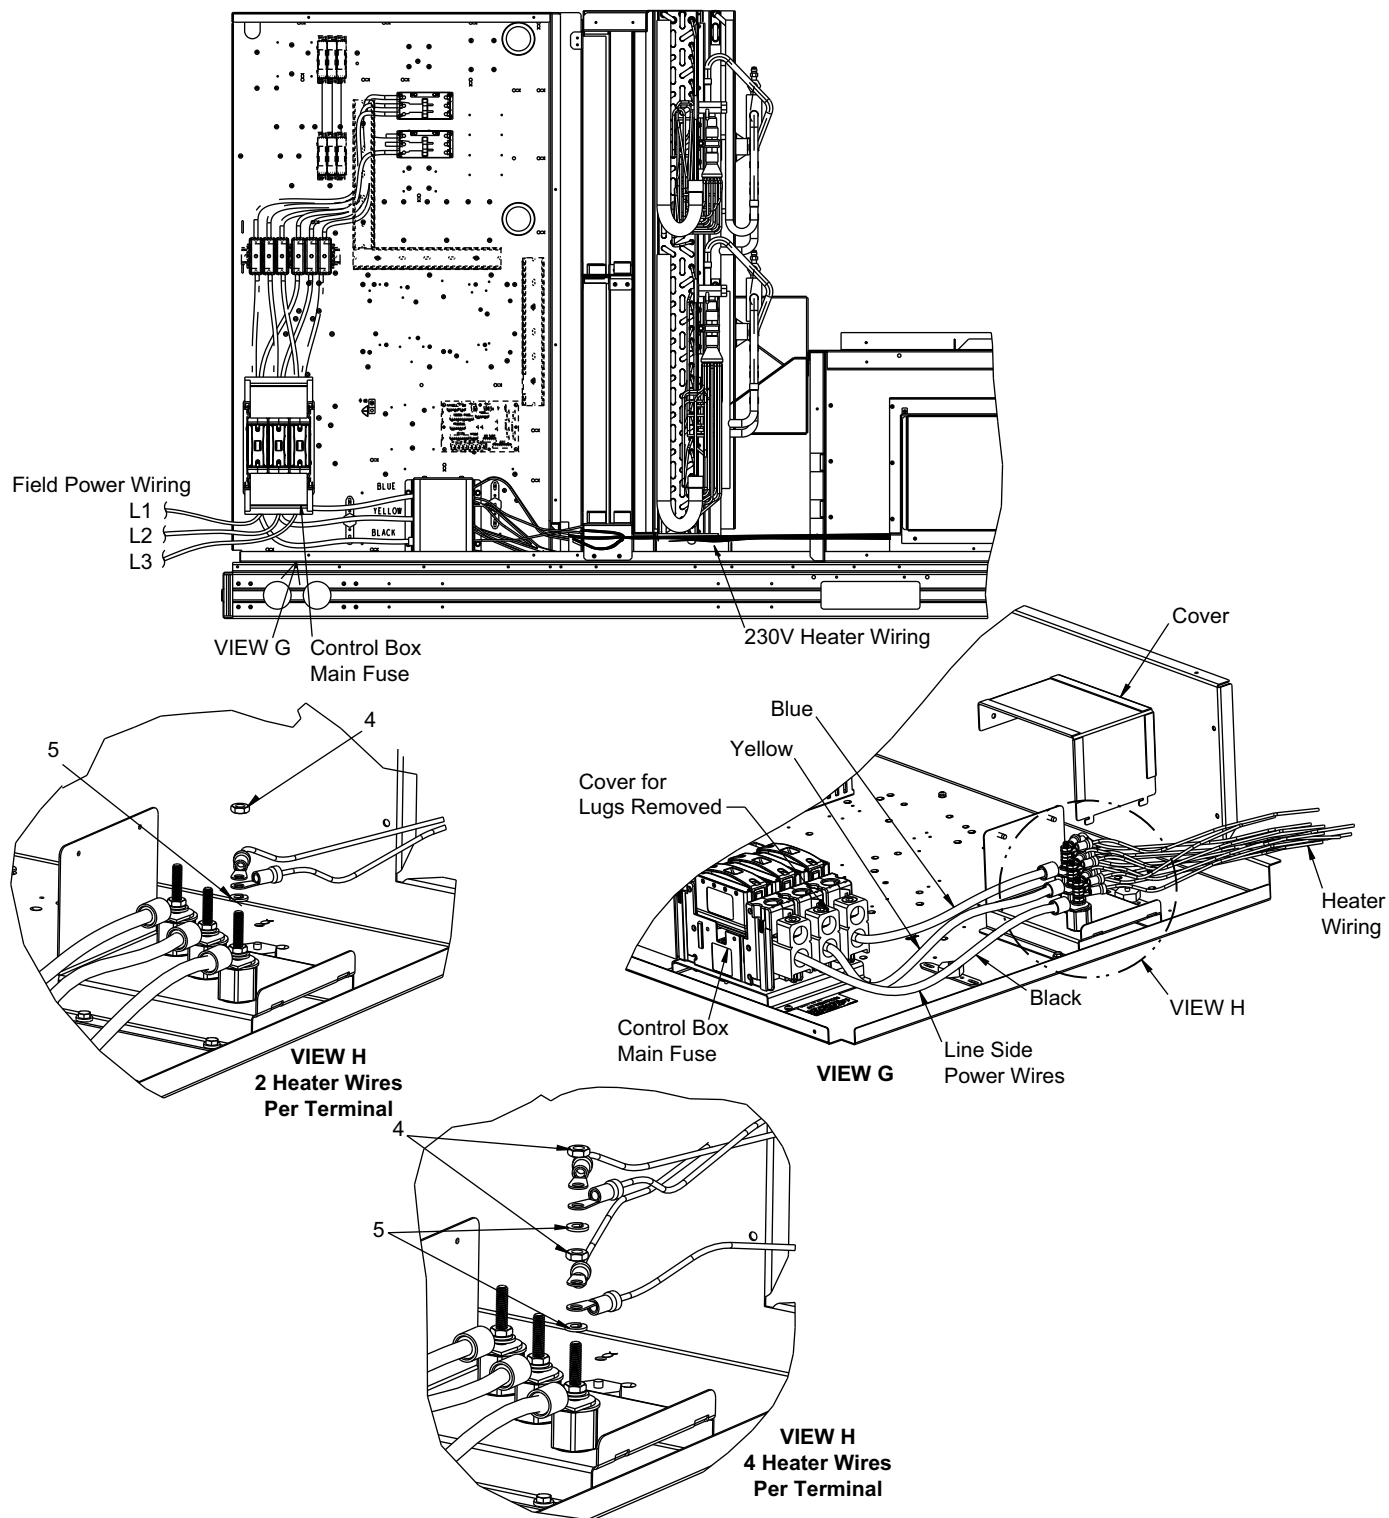

Fig. 50 — 230V Single Point Power Assembly Location (High SCCR)
1. Install terminal block assembly in location shown in Fig. 50.
For 4 wire/leg assembly: add lock washers (Item 5), turn bottom two wires so barrel of terminal is down as shown in Fig. 50. Add nut (Item 4) and tighten to 9-10 Nm (79 in.-lb). Add second lock washer (Item 5), the top two wires shall be installed with barrels "up." Add second nut (Item 4) and tighten to 9-10 Nm (79-88 in.-lb).